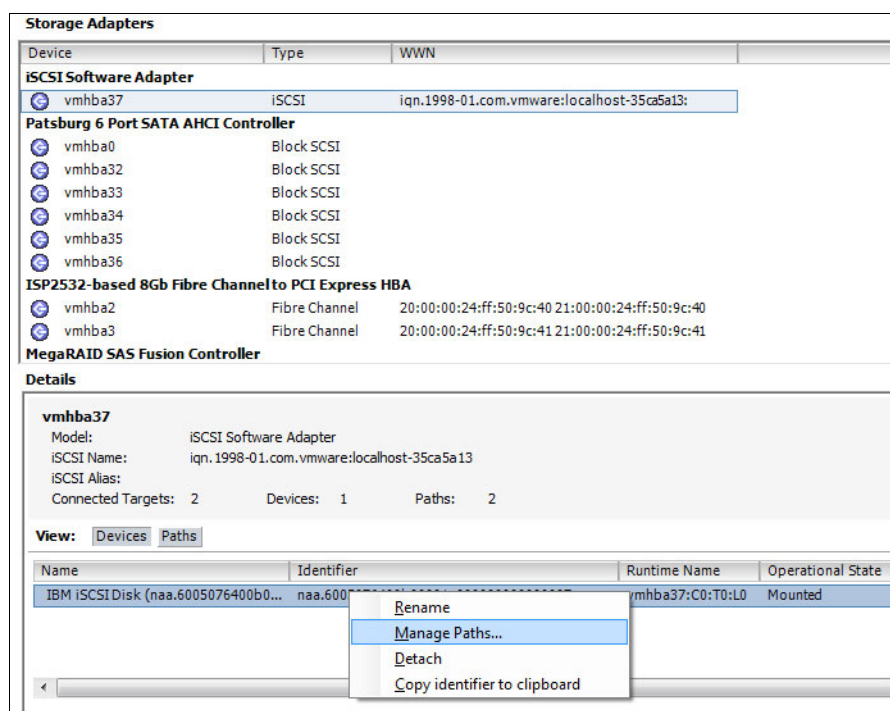

Figure 7-53 Manage Paths
1. In the Storage Adapters section in the vSphere client, select the software adapter, right-click the device or LUN, and click **Manage Paths**, as shown in Figure 7-53.